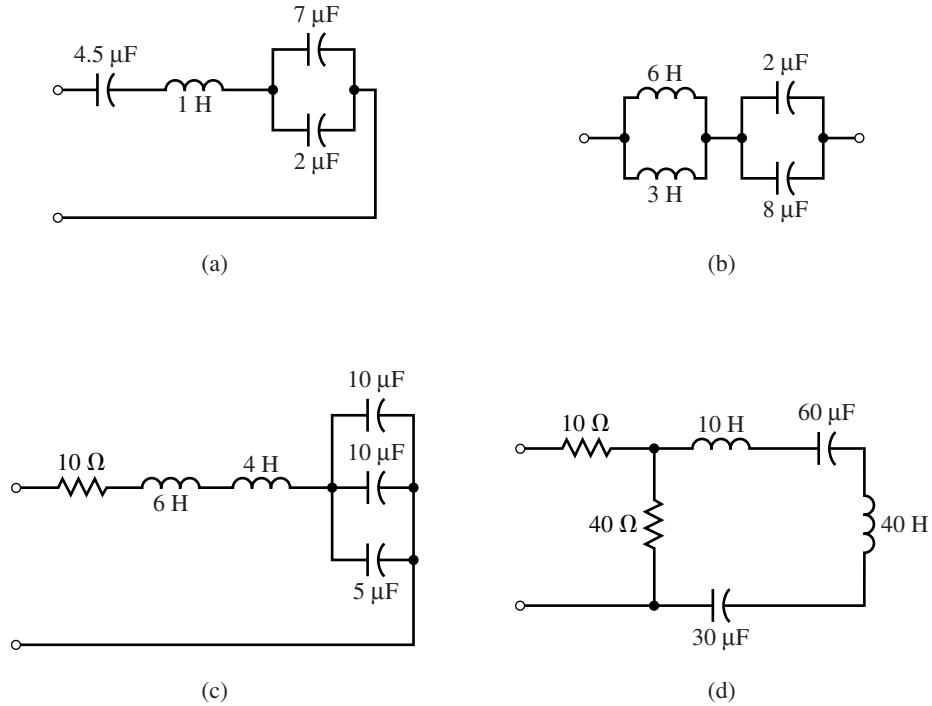

FIGURE 13–40
31. By combining elements, reduce each of the circuits of Figure 13–40 to their simplest form.